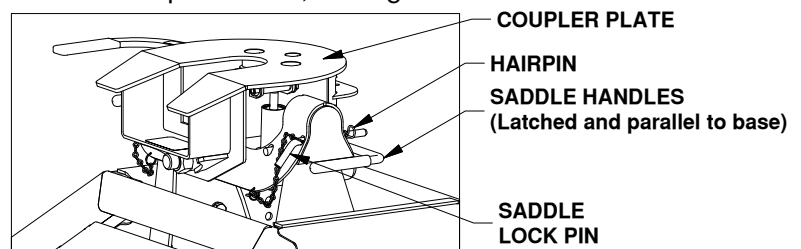

FIGURE E1: Coupler installed on base.
- Lubricate the polyurethane bushings on top of the pivot arms with high grade lithium grease (available at your local hardware/automotive store). Place the coupler over the pivot arms. (The saddle handles should be parallel with the base in the latched position.) Place the saddle lock pins through the saddle, then insert the hairpins through the holes in the end of the saddle lock pins to secure the coupler to the pivot arms, see figure E1.